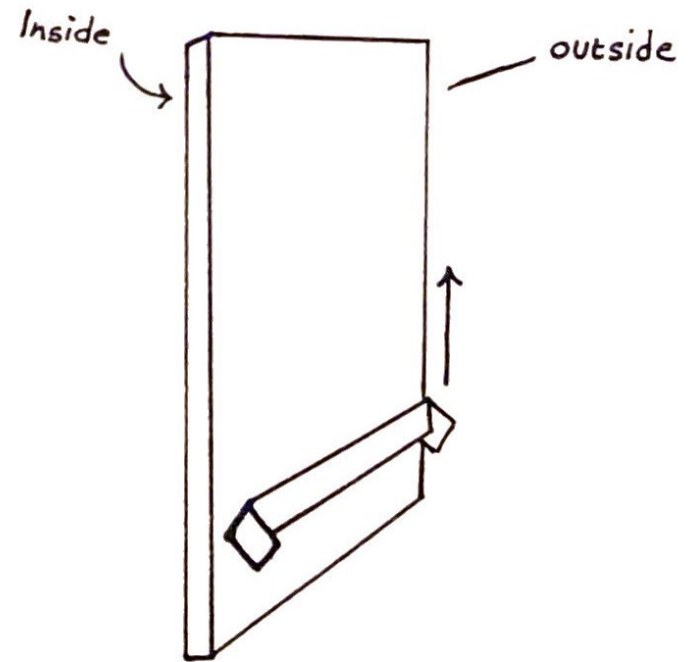

Fig. 12
6) Similarly apply a coat of emulsion on the other side of the screen. (see fig. 12)